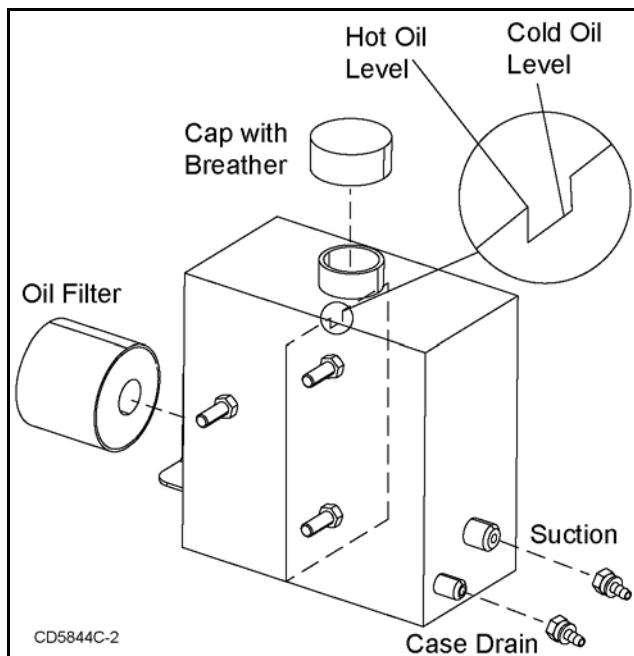

Figure 8. Hydraulic Tank
3. Remove cap and look inside reservoir to check fluid level. Check oil against notch in center of reservoir; hot oil should be to the top of the divider, cold oil should be to the bottom of the notch. See Figure 8.
4. Remove automotive type filter (Figure 8) by turning counter-clockwise.